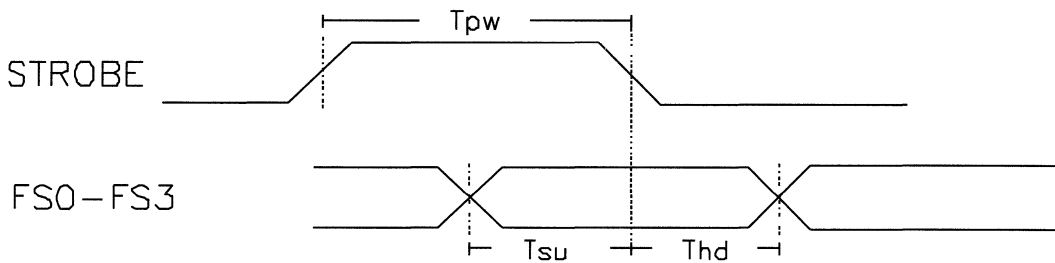

Figure 3
FS0 (18), FS1 (19), FS2 (20), FS3(1), and FS4 (4), are the TTL compatible frequency select inputs for the binary code corresponding to the frequency desired. STROBE (2), when high, allows new data into the frequency select latches; and when low, prevents address changes per Figure 3. The internal power-on-clear signal will force an initial frequency code corresponding to an all zeros input state. VERTBLANK (10), when low, inhibits the transfer of new frequency select information. Enabling this pin during the vertical blanking interval causes the change in frequency to happen at this time and prevents any visible glitch when a new frequency is selected. If this feature is not required, this pin may be left open.